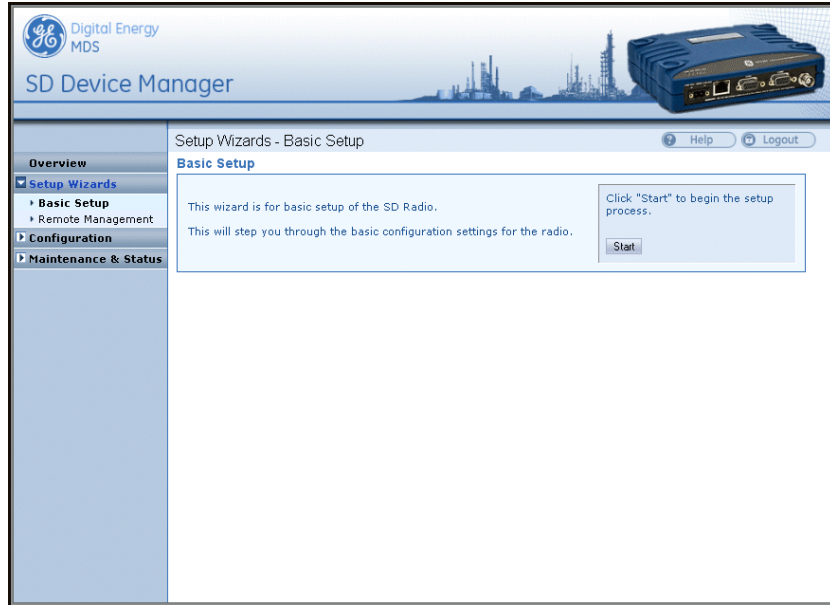

Figure 22. Basic Setup Wizard
4. The Basic Setup Wizard (Figure 22) begins automatically upon connection to a new factory shipped radio. It may also be started manually by selecting **Setup Wizards>>Basic Setup**, and then clicking **Start**. The Wizard displays a series of screens with key selections as follows: